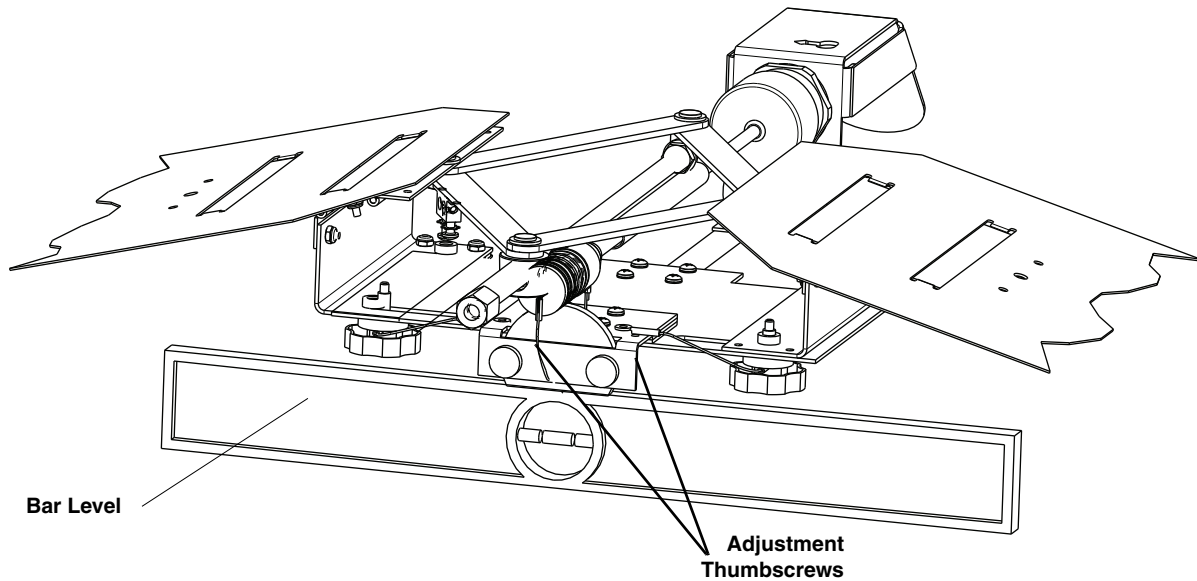

*Figure 2-18 Installing the sensor mount assembly on the scissors ring assembly*
5. Slide the Sensor Mount Assembly forward into the support bracket clips (Figure 2-18) with the sensor opposite to the hex drive.